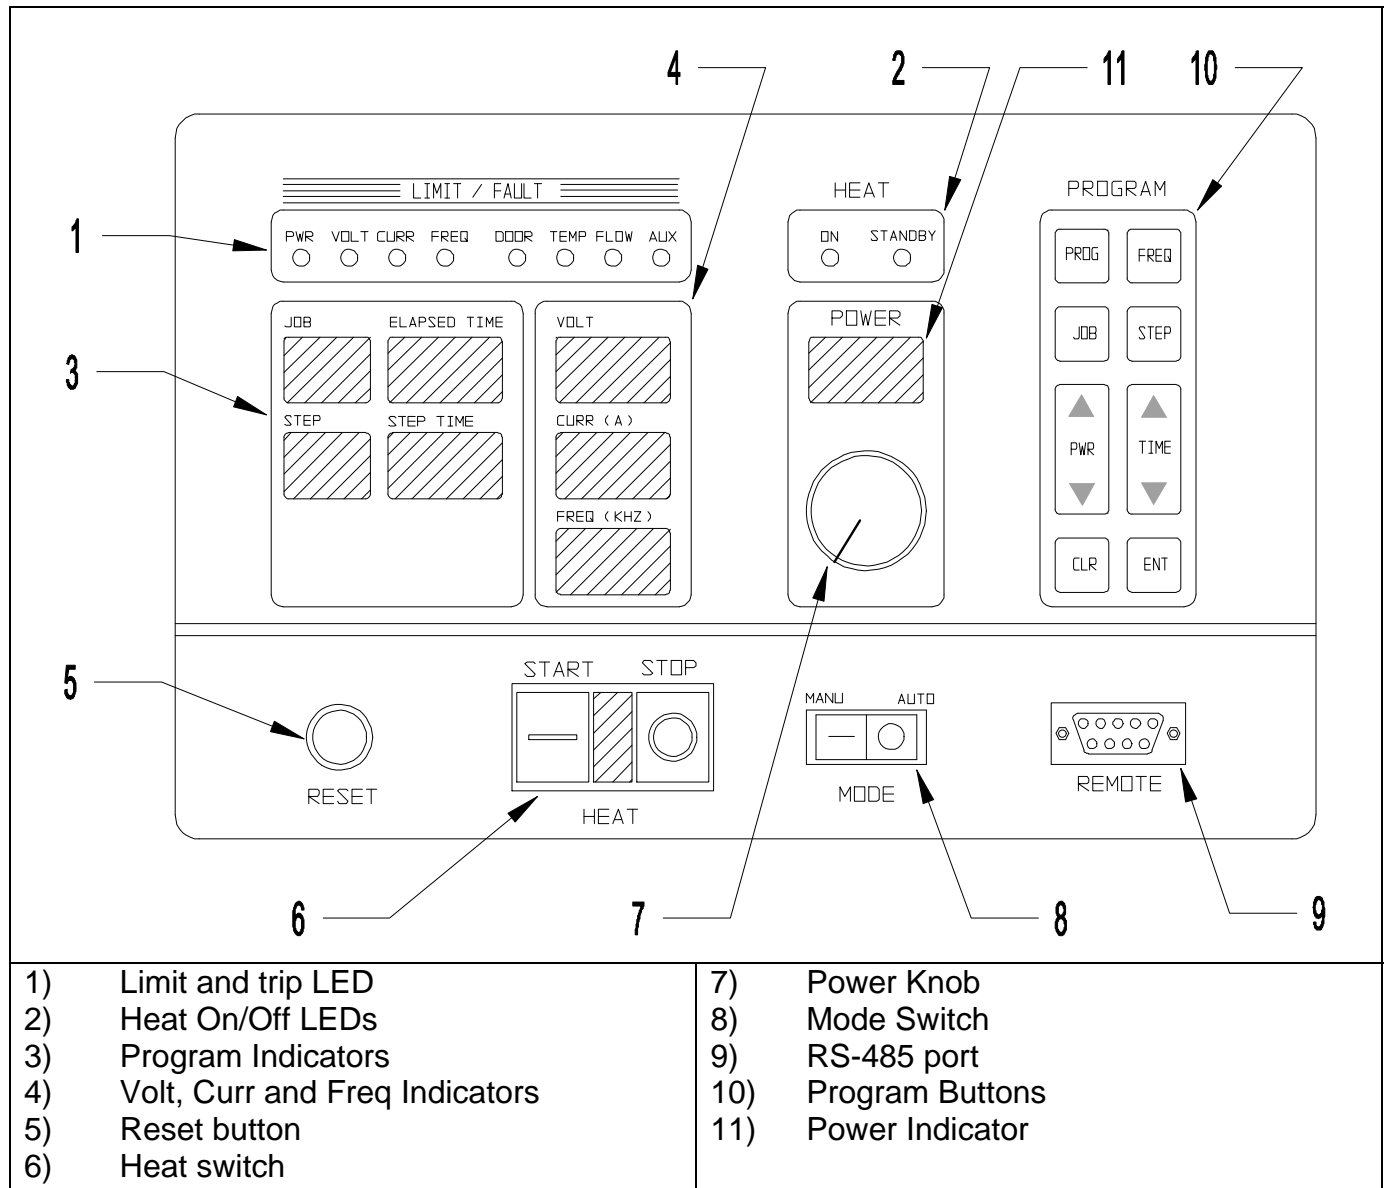

Figure 2: Front panel layout.
Identified by ① in Figure 2 on page 9.
These LEDs show whether the power supply is generating output or is off. (identified by ② in Figure 2 on page 9).
Identified by ③ in Figure 2 on page 9. These read-outs display the programs status when using the AUTO mode. The STEP TIME indicator display minutes and the TOTAL TIME indicator displays seconds during manual mode operation.
Identified by ④ in Figure 2 on page 9. These read-outs display the output voltage, the inverter current and the operating frequency when the power supply is operating.
Identified by ⑤ in Figure 2 on page 9. This button is used to clear the fault indicators if a run-time or interlock trip has occurred. Depressing the button will light the limit and trip indicators
Identified by ⑥ Figure 2 on page 9. When the power supply is energized, and no fault indicators are lit, pressing the ON (-) button will start the power supply delivering heat. When moved back to the STOP (O) position, the heating will be terminated. While in AUTO mode, the ON position initiates the heat cycle. Pressing the STOP button will terminate the heat cycle.
Identified by ⑦ in Figure 2 on page 9. The power pot sets the requested power level as indicated by the POWER read-out. The level of power output is indicated by the percentage on the LED display above the POWER POT. This pot is disabled during AUTO mode operation.
Identified by ⑧ in Figure 2 on page 9. In the manual position, MAN, the power supply turns on with the HEAT switch and power level is controlled by the POWER POT. The programming in AUTO mode is done with the MODE switch in the MAN position. In the automatic position, AUTO, the power supply runs programmed jobs. The heat cycle is initiated with the HEAT switch and the power levels and duration of the cycle are controlled automatically, as programmed.
Identified by ⑩ in Figure 2 on page 9. The program buttons are used to program and display jobs for the power supply to run automatically. See section 5 on page 13 for a description of how to program the power supply.
Identified by (11) in Figure 2 on page 9. This read-out displays the demand power when the unit is in standby or program mode, and displays the power output when the heat cycle is in progress.